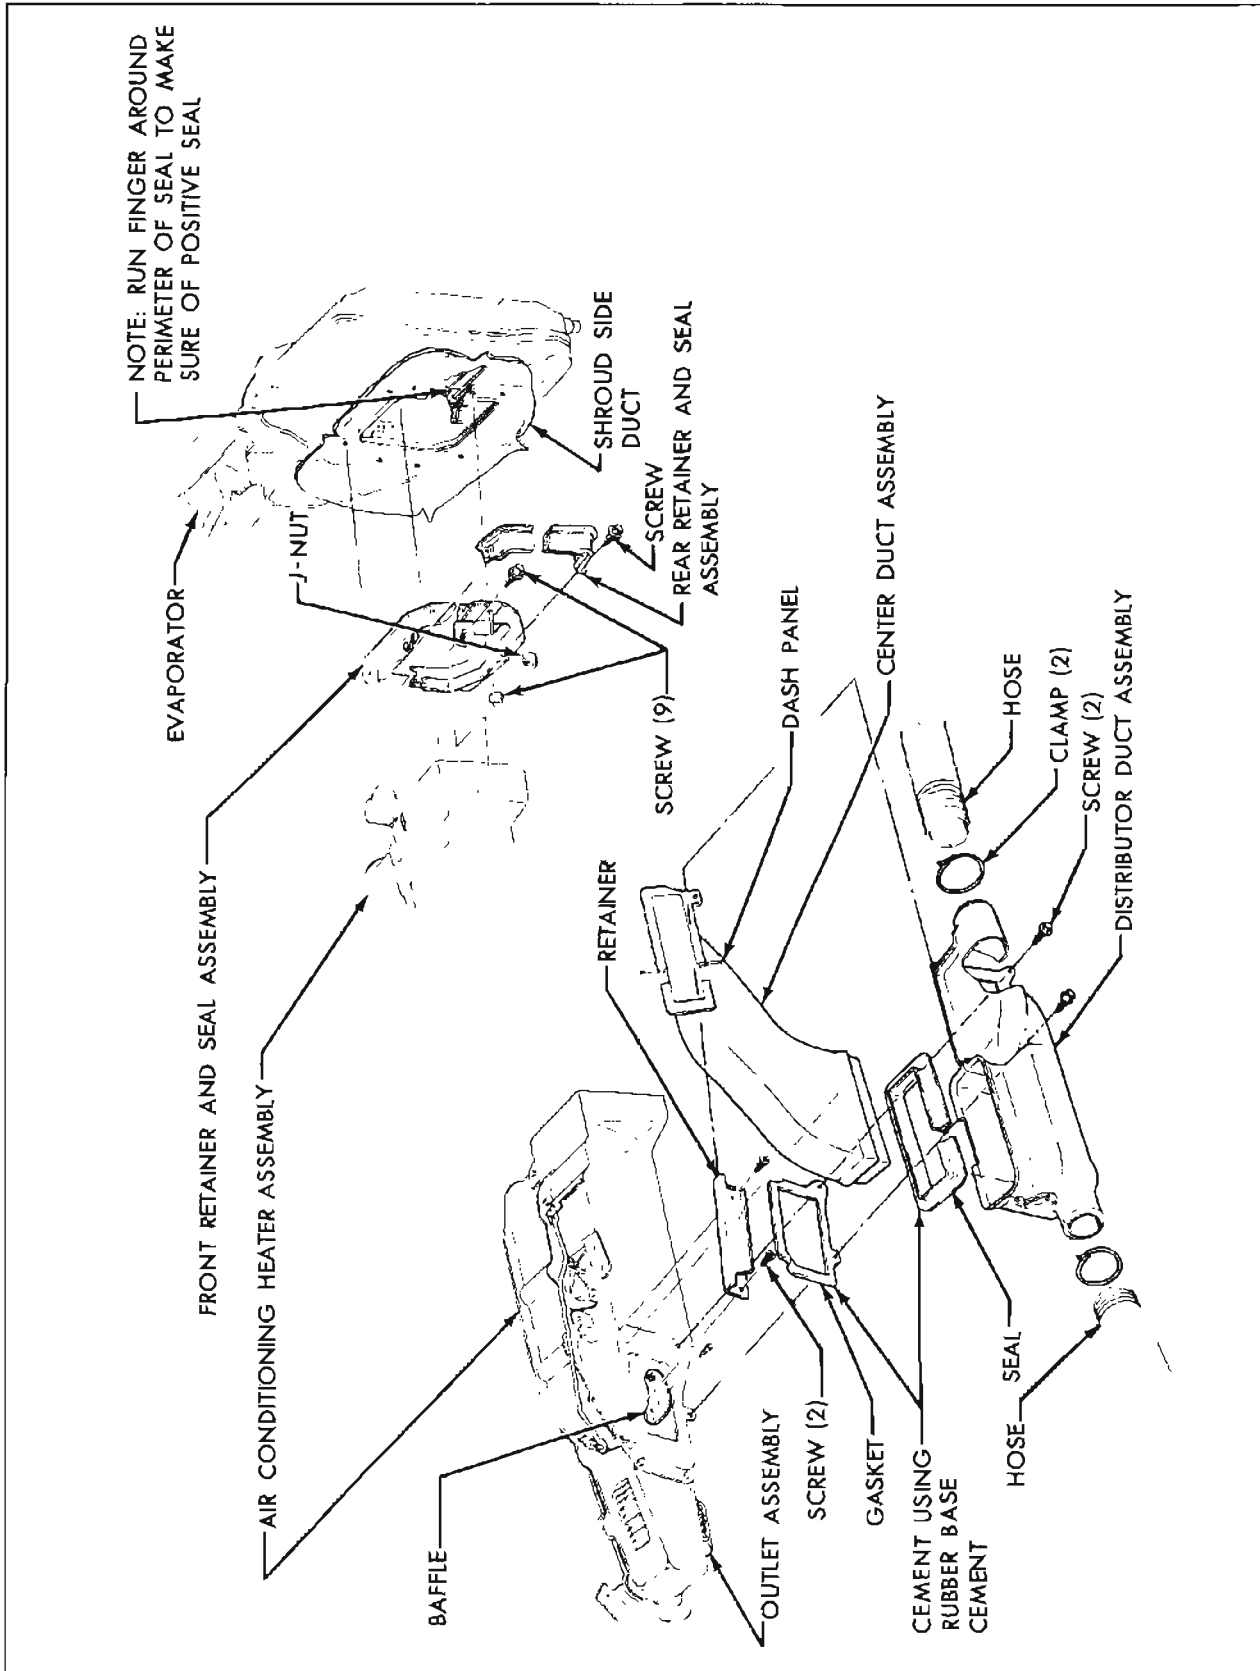

Figure 11-111—Distributor Duct Assembly, and Front Retainer and Seal Installation
6. Remove glove box, disconnect air conditioner outlet hoses from distributor duct (see Figure 11-111). Remove two screws securing duct to heater assembly and take out distributor duct.
7. Disconnect temperature, diverter, and defroster control wires (see Figure 11-19). Remove rear retainer and seal assembly (see Figure 11-111) and pull out air conditioner heater assembly.